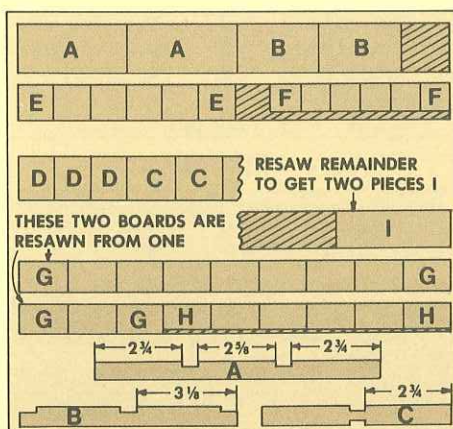

FIGURE 1
For the drawers: cut the four rabbets on the back of (E) as shown in Fig. 1. Then chamfer the front edges. (I used a Vee-grooving bit in a router mounted to a table.) Finally, drill holes for the porcelain knobs.